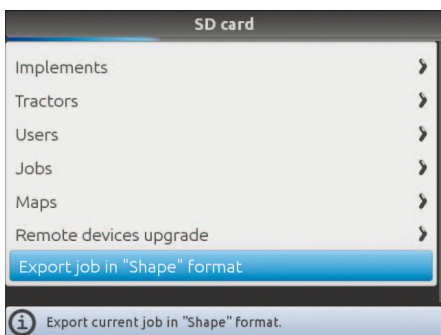

Fig. 294
- Select **Export job in "Shape" format** (Fig. 294) and press **OK**.